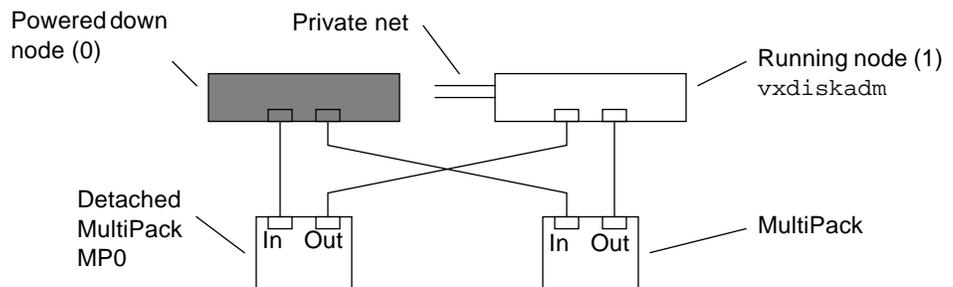

Figure 7-9 Private Nets Detached
- a. For PDB, use the `vxdiskadm` command of the CVM or VxVm to detach the MultiPack from the failed node (Figure 7-9) as described in the *Ultra Enterprise Cluster PDB Volume Manager Administration Guide*.